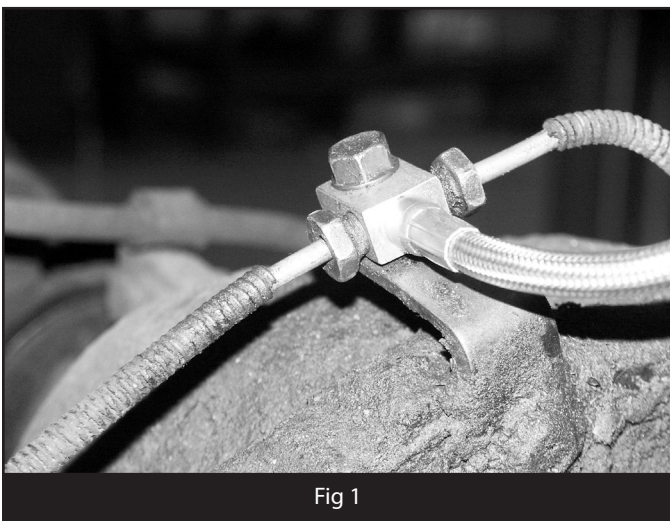

Fig 1
6. Install the driver's and passenger's side hard lines to the new brake line junction block and tighten securely (Fig 1).